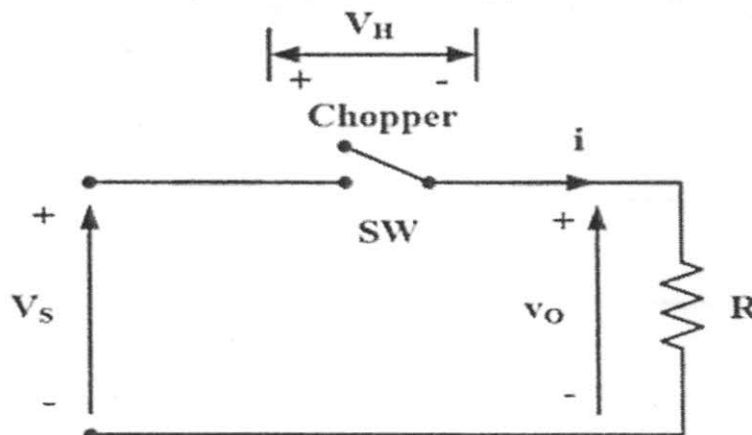

Figure Q.7.a
7. a) A step-down chopper as shown in Figure Q.7.a is fed by a 230 V voltage source. The load is purely resistive with a value of 20Ω . Consider a practical chopper switch is with a voltage drop of $v_{ch} = 1.5$ V when it is on. The chopper is operated with a duty cycle of 60 %. Calculate